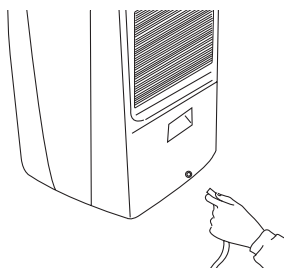

fig. 3
3. Connect the hose to the outlet (fig. 3). Make sure the hose is free of kinks or bends.